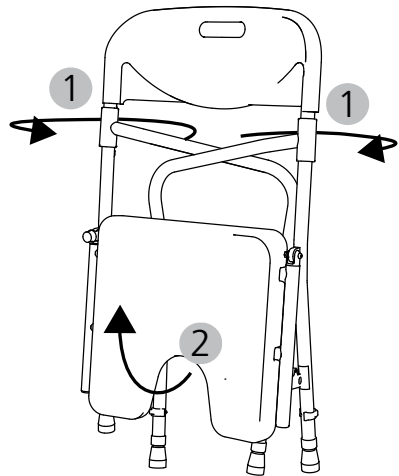

Abb. 11
1. Swing the side elements forward at the armrests (Fig. 11, 1) and open them slightly outwards so that the seat can be folded upwards without any obstruction (Fig. 11, 2).